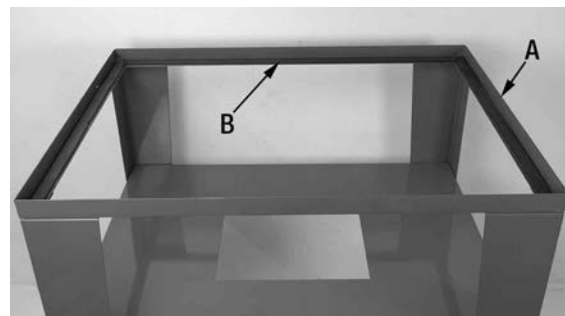

FIGURE 5
- 4) Inside the inner lip of the stand frame (A) Fig.5, install the adhesive foam stripes (B) all around as shown.